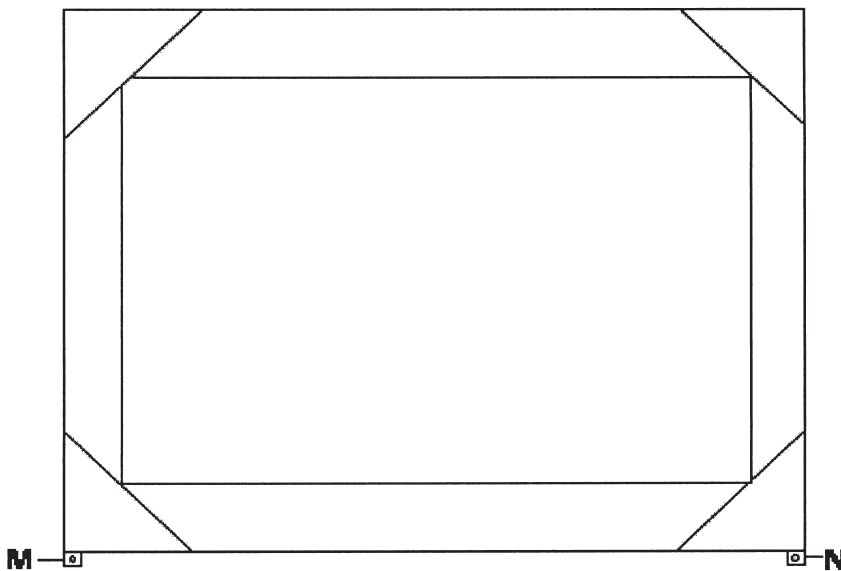

Figure 6
27. Weld Frame to center of M. (see Fig. 6 and 7)
28. Weld Frame to center of N. (see Fig. 6 and 7)